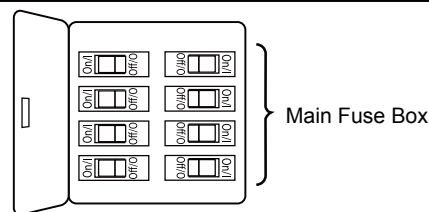
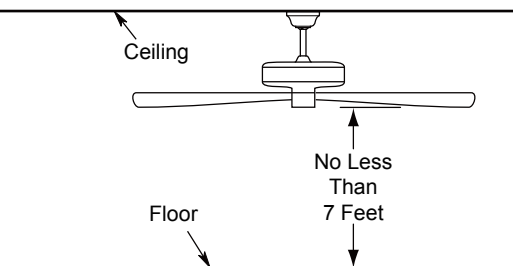
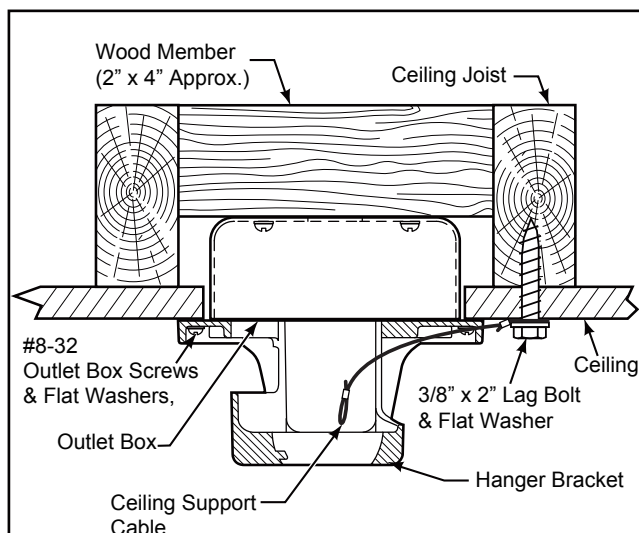

Figure 1
Figure 2
Figure 3
Your new ceiling fan will require a grounded electrical supply line of 120 volts AC, 60 HZ, 15 Amp Circuit. Electrical code requires use of a fan-rated outlet box to support the extra weight and motion associated with a ceiling fan. A fan-rated box will be labeled as such and typically supports up to a 70lb ceiling fan. Fan-Rated Outlet Boxes vary in ratings and design. Ensure the ratings of your ceiling fan outlet box meet the requirements for the ceiling fan being installed. Figure 1, Figure 2 and Figure 3 depicts different structural configurations that may be used for mounting the outlet box.
Low profile box (Figure 1)
Deep box (Figure 2)
Deep box with brace (Figure 3)
1. Prior to assembly, set aside and save the hardware bags included in the packaging. Remove the hanger ball by loosening the set screw in the hanger ball until the ball falls freely down the downrod. Remove the pin from the downrod, then remove the hanger ball. Retain the pin and hanger ball for reinstallation in Step 6. (Figure 1)
2. Remove the hairpin clip and clevis pin from the bottom of downrod. Retain the pin and clip for reinstallation in Step 4. (Figure 2)
3. Loosen the two set screws and locking nuts in the downrod support of the motor assembly. Route brown, blue, red, gray, yellow wires and safety cable through the downrod. (Figure 3)
To avoid possible fire or shock, be sure electricity is turned off at the main fuse box before hanging. (Figure 1)
The fan must be hung with at least 7' of clearance from floor to blades. (Figure 2)
- ☐ 1. Securely attach the hanger bracket to the outlet box using the #8-32 outlet box screws and flat washers supplied with the fan. (Figure 3)
- ☐ 2. Drill a 1/4" pilot hole into the building structure to prevent splitting or cracking with installation of the lag bolt. Using the 3/8" x 2" lag bolt and flat washer, attach safety cable to ceiling joist or wood structural member. The lag bolt will pass through the flat washer, safety cable loop, and into the building structure. (Figure 3)
NOTE: Ceiling support cable cannot be secured to outlet box only, it must be directly secured to ceiling joist or structural member using the 3/8" x 2" lag bolt and flat washer. (Figure 3)
- ☐ 1. To set the code on receiver unit, slide dip switches to the same positions as set on the remote control. (Figure 1)
To avoid possible electrical shock, be sure electricity is turned off at the main fuse box before wiring. (Figure 2)
☐ 2. Slide the receiver into the hanger bracket before wiring as shown in figure 3.
1. Assemble canopy by rotating key slot in canopy over shoulder screw in hanger bracket and care not to pinch the wires. Tilt the motor assembly to the side to have more space to tighten shoulder screws. Fully assemble and tighten second shoulder screw that was previously removed. (Figure 1)
2. Securely attach and tighten the canopy screw cover over the shoulder screws in the hanger bracket utilizing the keyslot twist-lock feature. (Figure 2)
1. Carefully slide the blade through the slot as shown. Make sure the notch of blade is fully seated into the hex socket screw. Securely fasten the eight blades to the motor housing using the blade plates and button head screws. (Figure 1)
1. Remove one of the three screws in the support bracket at the bottom of the motor assembly. Retain the screw for later and slightly loosen the remaining two screws. (Figure 1)
2. Assemble the light kit to the support bracket using the two key slots in the light kit. Replace the previously removed screw and securely tighten all three screws. (Figure 2)
- ☐ **3.** Remove one of the three screws in the light kit. Retain the screw for later and slightly loosen the remaining two screws. (Figure 3)
- ☐ **1. IMPORTANT:** Using a full range dimmer switch (not included) to control fan speed will damage the fan. To reduce the risk of fire or electrical shock, do not use a full range dimmer switch to control the fan speed. (Figure 1)
- ☐ **2.** Restore electrical power to the outlet box by turning the electricity on at the main fuse box. (Figure 2)
- ☐ **3.** Remove the battery cover from remote control by screwdriver and retain the screw for later. (Figure 3)